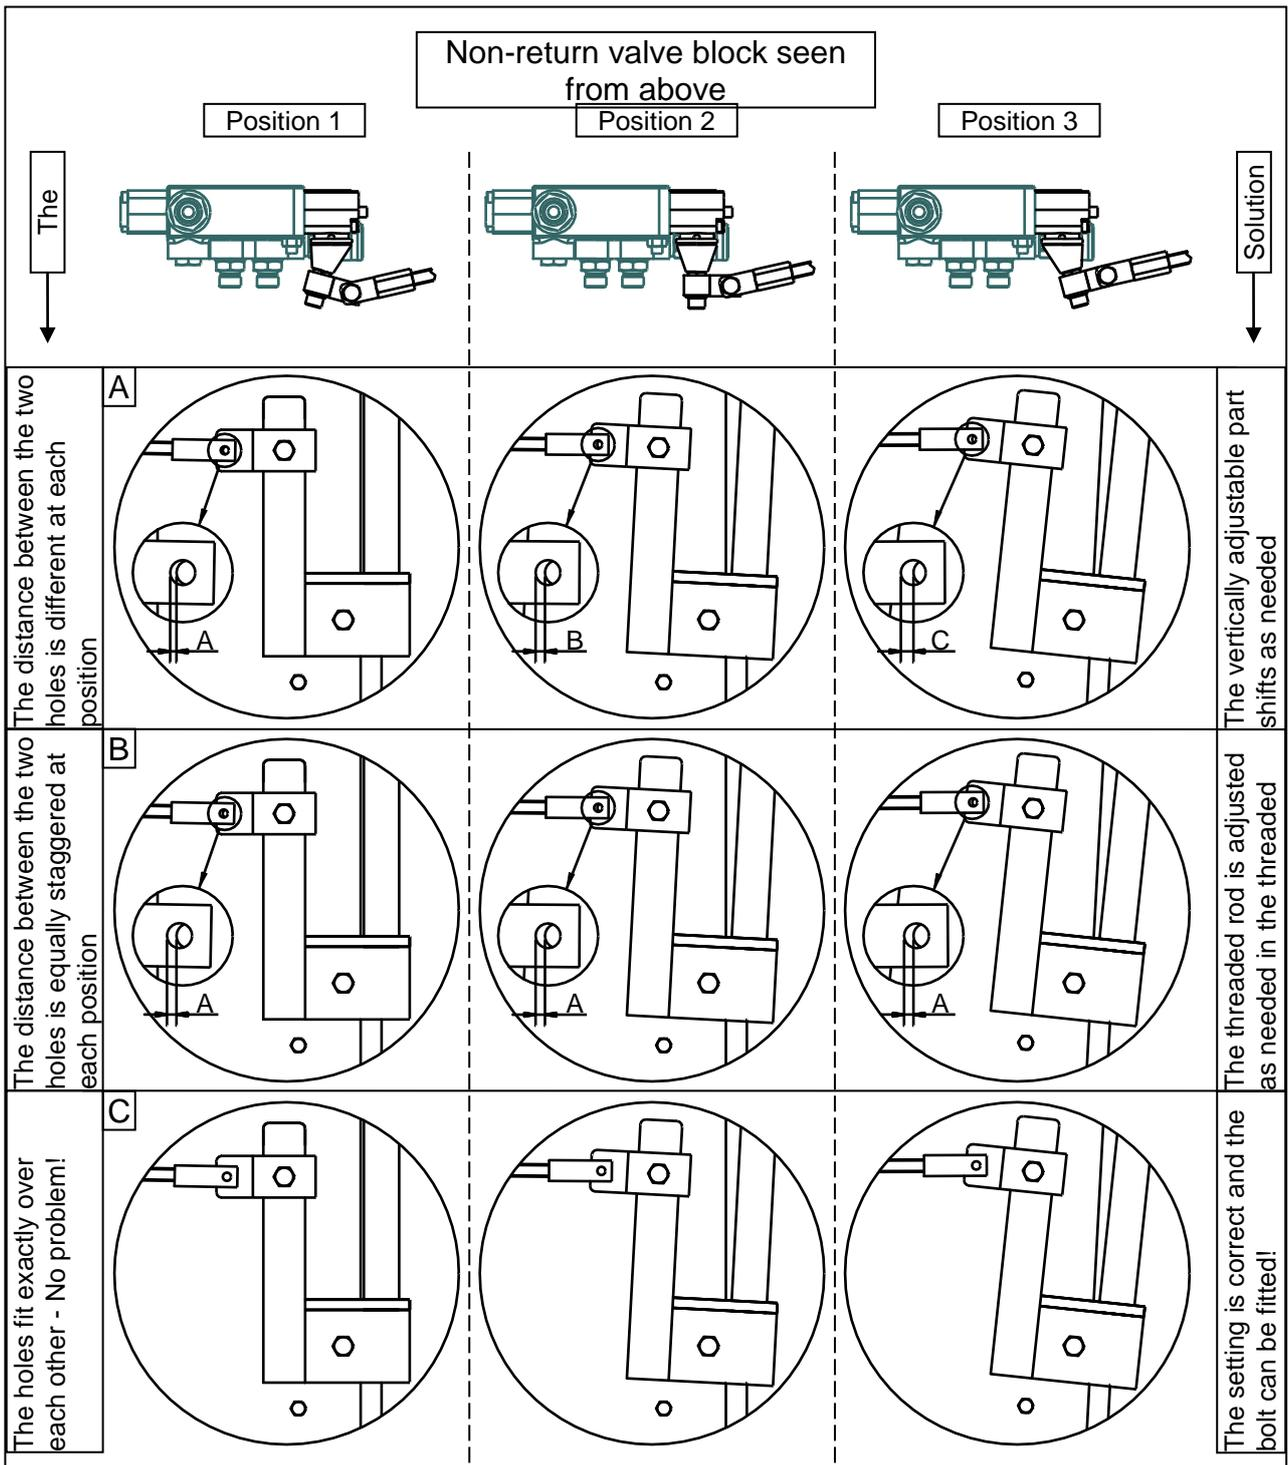

Figure 55: Adjusting the control handle mechanism
- a) Set the control handle position 1 and also set the directional slider to position 1 (see Figure 55 at the top).
Also see Figure 55 for the different issues.